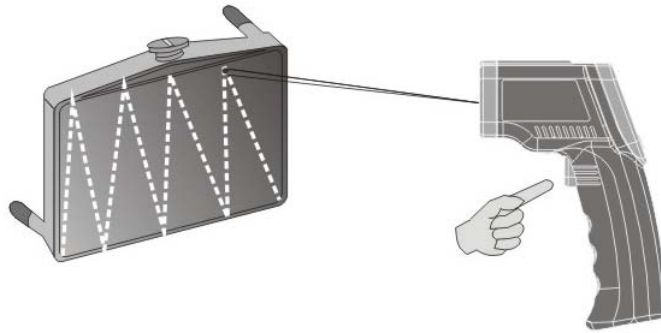

figure3
- 5>. Locating a hot spot: To find a hot spot aim the thermometer outside the area of interest, then while still holding the trigger, scan across with up and down motions until you locate the hot spot. As shown in figure3: